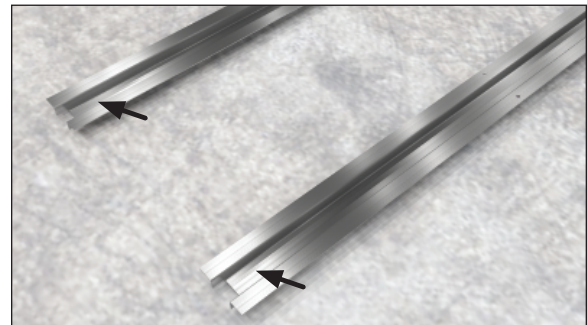

Fig. 2 Seismic anchoring locations
8. If necessary, drill a hole in each end of every horizontal support (Fig. 2) and fasten to the floor with concrete anchors. **Note: The holes do not need to be in the exact locations specified here. Be sure that the anchors are close to the end of the horizontal supports and at each corner of the case.**